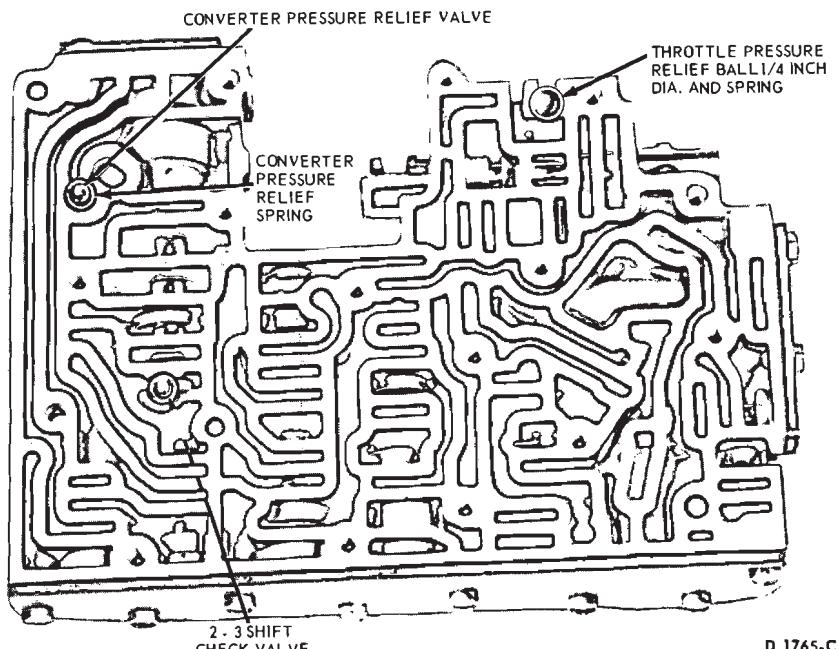

FIG. 39—Converter Pressure Relief Valve, Throttle Pressure Relief Valve, and 2-3 Shift Check Valve Locations
3. Place the valve body on a clean surface and the passage side facing up. Place the converter relief valve spring in its bore (Fig. 39). Coat the converter relief valve check valve with
vaseline and place it on top of the spring. Place the 2-3 shift check valve ball in its cavity. Place the throttle pressure relief valve spring in its bore (Fig. 39). Coat the throttle pressure relief valve check ball with vaseline and place it on top of the spring.